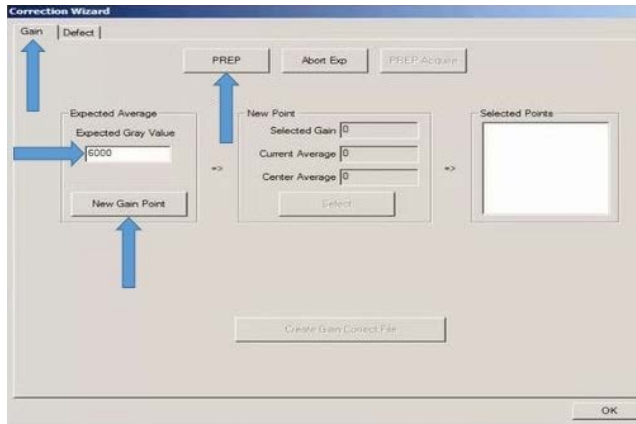

Figure 14: Gain Settings
4. Set the **Expected Gray Value** field to 6000 (Figure 14).
5. Click **New Gain Point** (Figure 14).